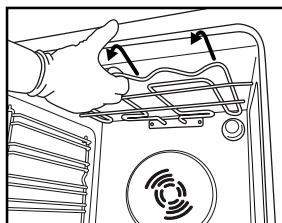
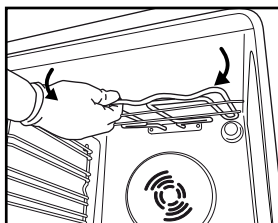

Fig. 4
Fig. 5
2. Pull the heating element out a little (Fig. 4) and lower it (Fig. 5).